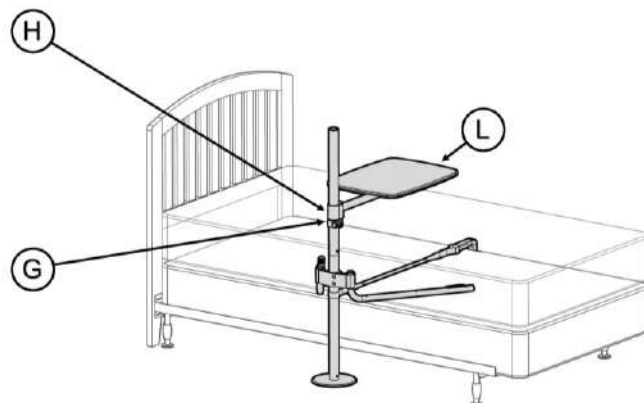

FIGURE 8
8. Place **G** on pole and set to desired height. Place **H** on pole and hang **L** on **H** as shown. **FIGURE 8**